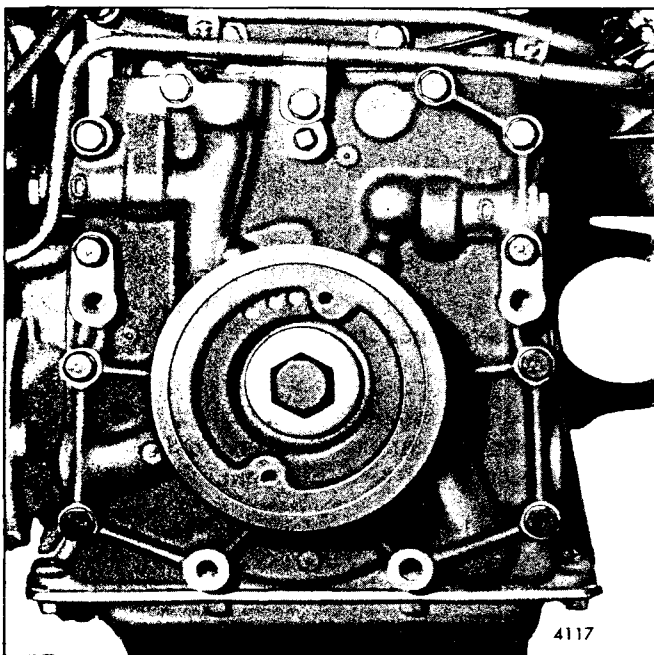

Fig. 1 - Engine Front Cover Mounting (Lower)
6. Refer to Figs. 1 and 2 and install the 3/8"-16 bolts and lock washers. Tighten the bolts to 30-35 lb-ft torque.